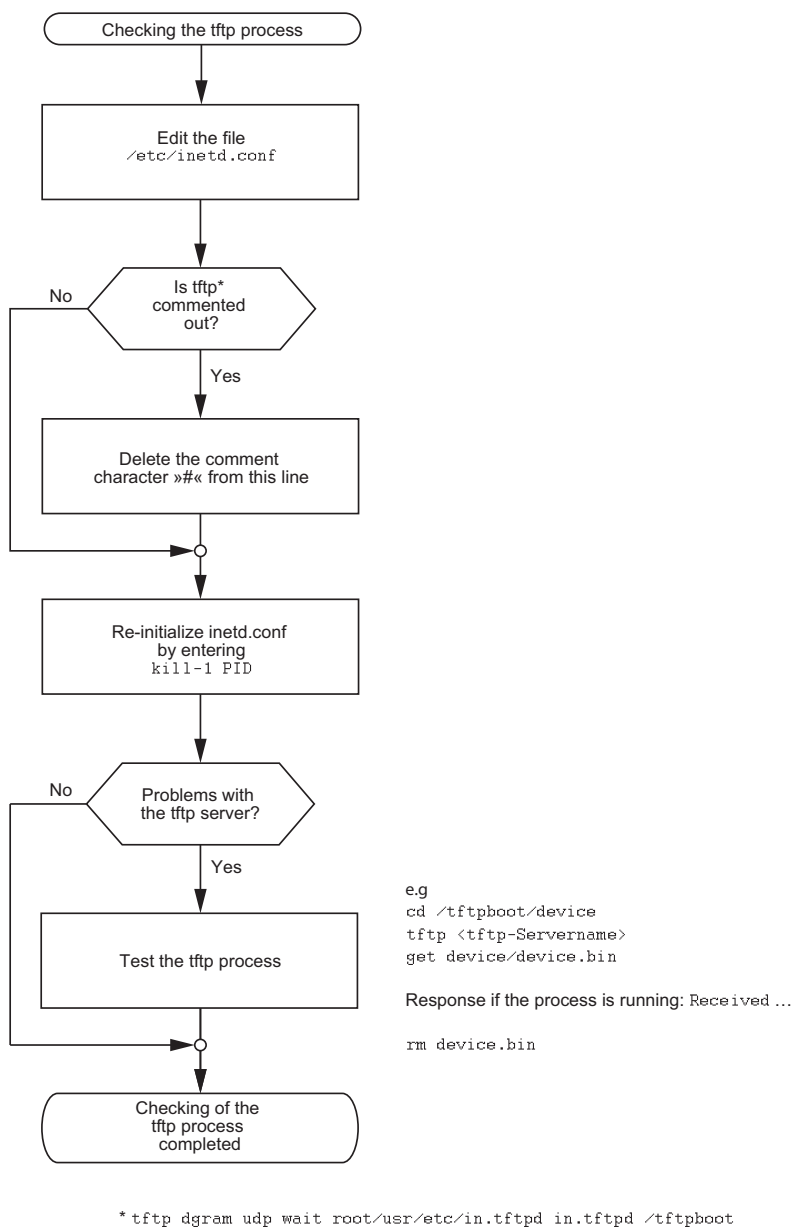

Figure 55: Flow chart for setting up tftp server with SunOS and HP
- ☐ First check whether the tftp daemon (background process) is running, i.e. whether the file `/etc/inetd.conf` contains the following line (see figure 55) and whether the status of this process is "IW":